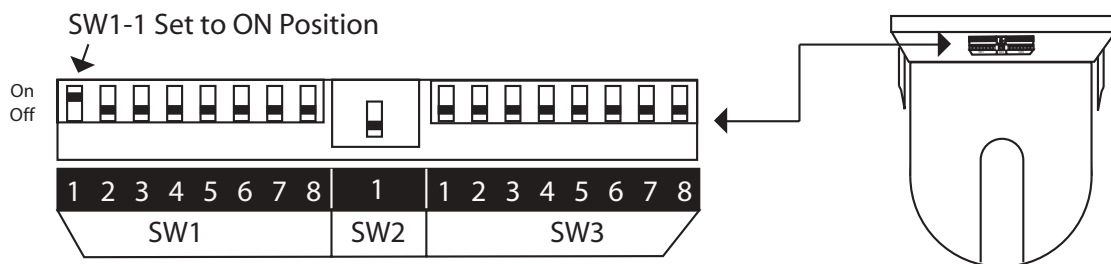
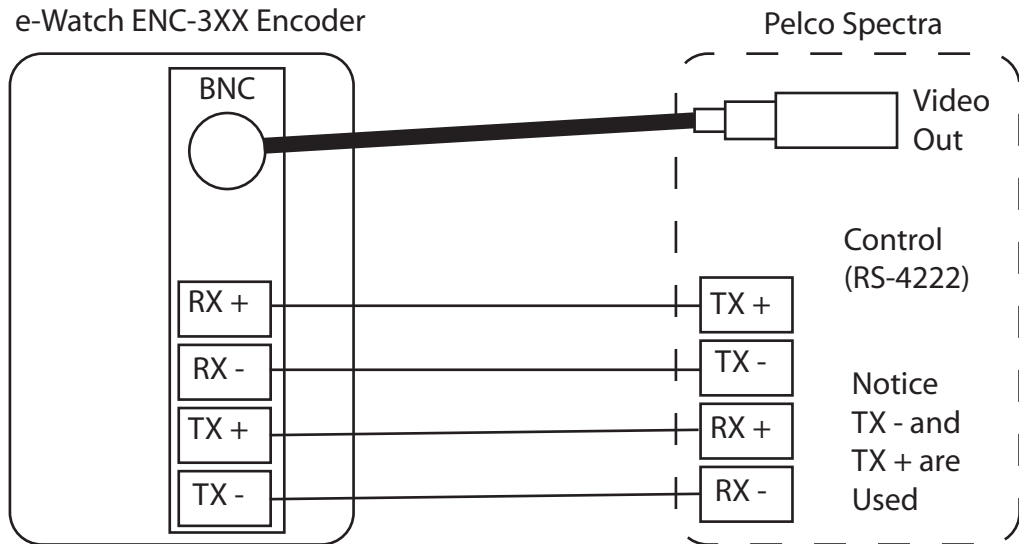
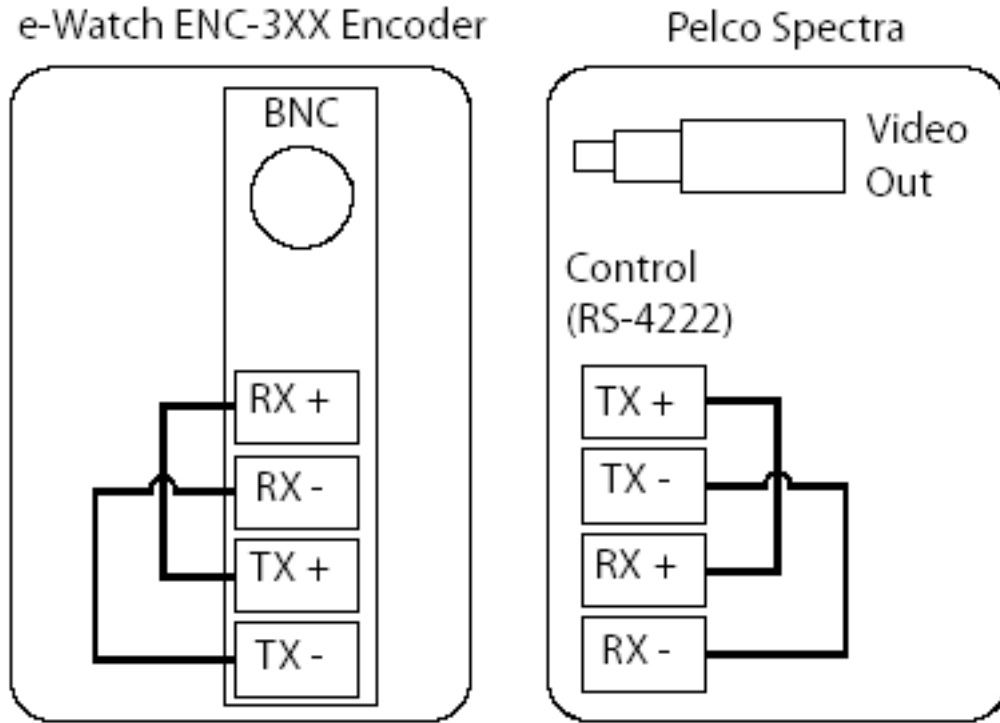

Figure 3-1 Pelco Spectra III SW Switch Settings
Figure 3-3 ENC to Spectra Wiring
Figure 3-6 Loopback Connections
1. Set SW 1-1 to the **ON** position. All other switches off. (*Figure 3-1*).
1. Connect the four primary wires as follows (*Figure 3-3*).
Disconnect the four primary wires from the back of the Encoder. Make the loopback connections RX+ to TX+ and RX- to TX- as shown in *Figure 3-6*. Run the e-Watch Diagnostic Package Viewer program. Connect to the SiteWatch server, select the Pelco Spectra camera in the dropdown Camera list, then click the Connect button. A tab labeled “Test Dome” should appear next to the Camera and Agents tabs. Click the Test Dome tab, then click the Test button. If the program reports “FAILED”, then the adapter card in the Encoder is probably faulty and should be returned to e-Watch for repair or replacement. If the program reports “PASSED”, then reconnect the four primary wires to the back of the Encoder and proceed to the next step.
Please refer to the Pelco Spectra III installation manual C2442M (2/02) for specific instructions relating to the following steps. Open the Pelco Spectra wiring interface, then make the loopback connections RX+ to TX+ and RX- to TX- as shown in *Figure 3-6*. Again run the e-Watch Diagnostic Package Viewer program, connect to the Pelco Spectra camera, click the Test Dome tab, then click the Test button. If the program reports “FAILED”, then there is probably a fault in one of the four primary wires connecting the Encoder to the Pelco Spectra. Make sure that the wires are connected as shown in *Figure 3-3*, and that they are not open or shorted. If the program reports “PASSED”, then there is a problem with the Pelco Spectra. Make sure the the SW switches are set as shown in *Figure 3-1*. Use the switch numbers embossed on the switch to determine the location of SW1-1, not any paper label that might be present. If the switches are set correctly, then the Pelco Spectra is probably faulty and should be returned for repair or replacement.